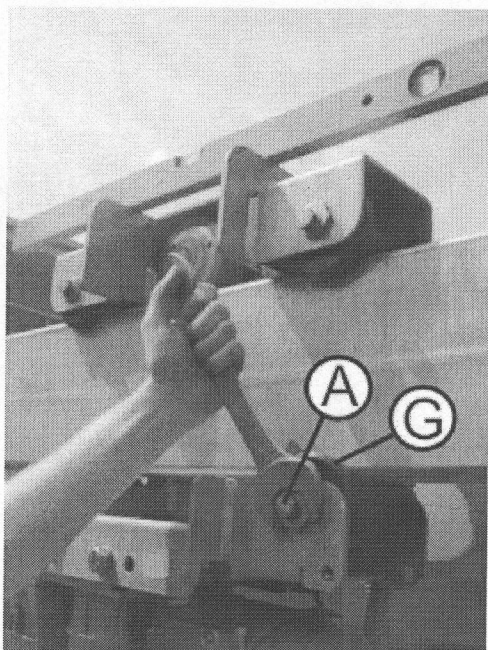

Fig. 030
5. Place the water weight on the truck and adjust it horizontal to the running roller (G) with the cams. Then tighten the roller axle (A) of the running roller (G) (Fig. 030 + 031).